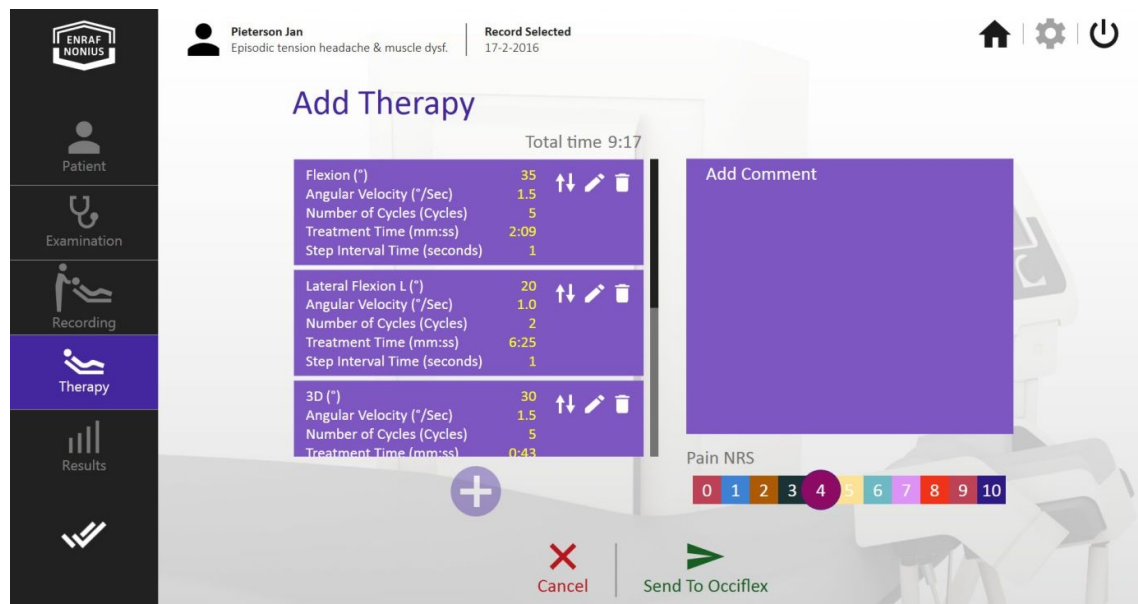

fig. 92
- Click “**Send to Occiflex**” after the therapy is composed and the NRS is selected (fig. 92).